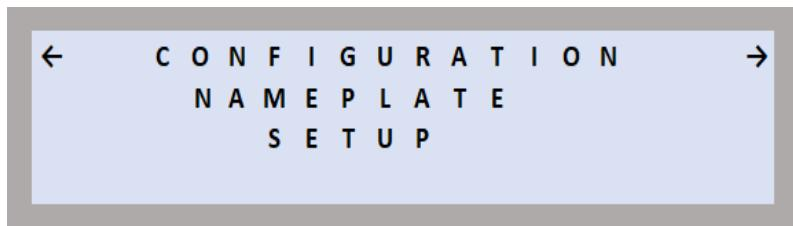

Figure 65
- When ready, press  to accept settings and return to the Configuration Nameplate Setup screen (see Figure 65).